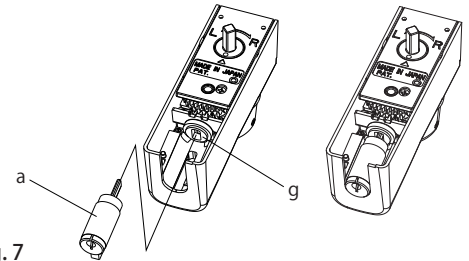

Fig. 7
4. Insert the cylinder (a) into the coupling (g) with the protrusion facing downward. (Fig. 7)